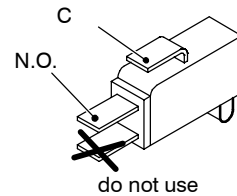

Fig. 53
- 2 Measure the electrical resistance between the tabs marked C. and N.O. (Fig. 53). The contact must be normally open.
- 4 Re-assemble the parts in reverse order of removal. Refer to Fig. 53 for the correct wiring connectors on the switch